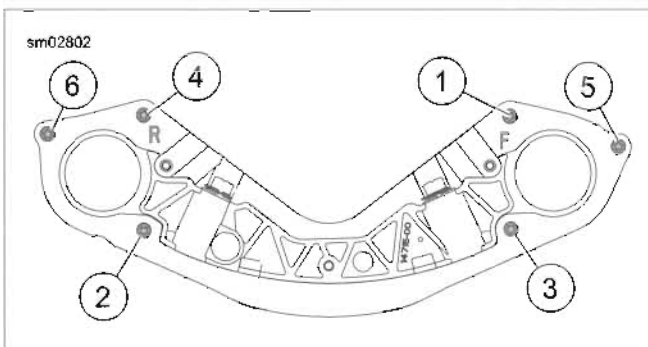

Figure 3-159. Balance Shaft Support Torque Sequence
5. See Figure 3-159. Apply LOCTITE 262 HIGH STRENGTH THREADLOCKER AND SEALANT (red) to threads of screws for balance shaft housing. Insert screws and tighten to 18-22 ft-lbs (24.4-29.8 Nm) in the sequence shown.